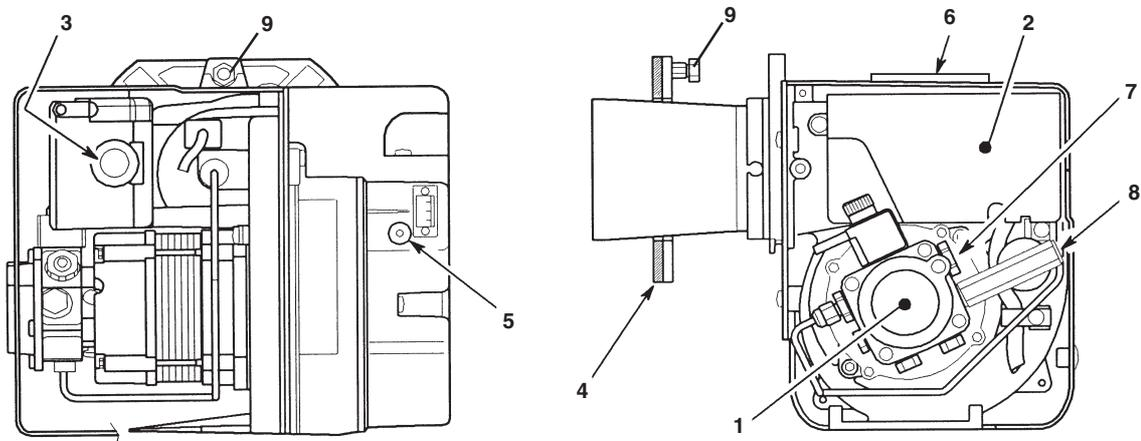

Fig. 20 - Riello RDB burner components
- 1 Remove and retain the burner fixing nut from the stud on the burner mounting flange on the front of the boiler, see Fig. 20. Leave the small nut in position (ensure it is located up against the mounting flange).
Use the hexagonal key supplied to adjust the burner air damper (see Fig. 20) as required. Turning the screw anti-clockwise closes the damper and increases CO₂ level, turning the screw clockwise opens the damper and reduces CO₂ level. Re-check the smoke number if the damper has been moved. Under no circumstances must the smoke number be above 1.